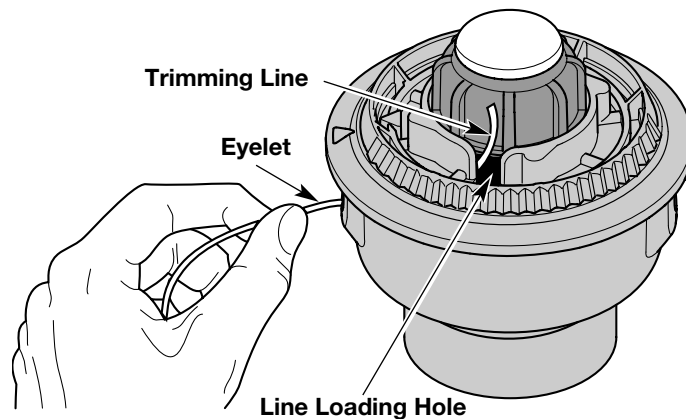

Fig. 17
3. Pull old line out of the line loading and line locking holes (Figs. 17 and 18).
4. Insert a piece of trimming line into one of the two eyelets in the outer spool. Push it up through the line loading hole in the inner reel (Fig. 17). Do not bend the line when inserting it into the eyelet.